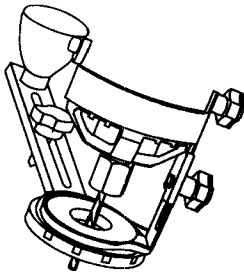

Fig. 13
- 4 Rest the edge of the sole plate on the workpiece with the bit at an angle of about 45° (see Fig. 13). Insert the circle cutter pivot point into the pilot hole drilled at the center of the circle